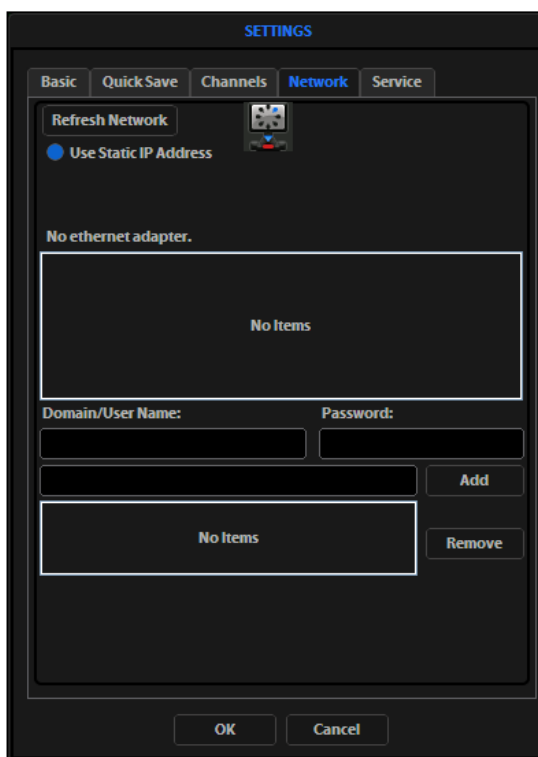

Figure 26 Refreshing the network connection
- The upper list box of the Network page will display the top level (available domains) of the Windows/SMB network file tree. Click the triangle icon, or double-click the domain name, to expand a domain and display the available servers (Figure 26).